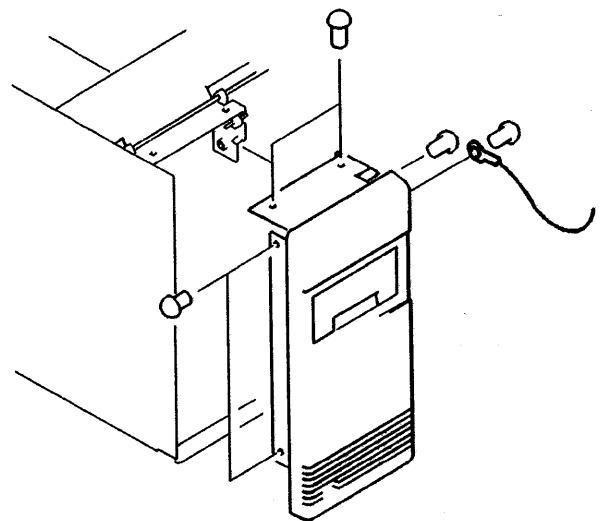

Figure 11-3. The Front Panel Assembly
- The door, front panel and door latch assemblies have been redesigned. The door action is now damped using a mechanical speed governor assembly, instead of an air-filled dashpot (see service note 6). Figures 11-3 and 11-4 show the original front panel and door assemblies.